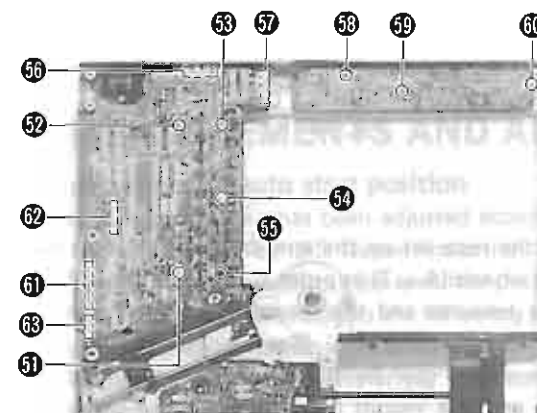

Fig. 15
2. Remove the logic control P.C.B. setscrews ⑪ ~ ⑬. (See Fig. 15)
3. Remove the connector ⑭ (CN204) and ⑮ (CN401) of the logic control P.C.B.; remove the setscrews ⑯ ~ ⑰ of the operation P.C.B. then the operation P.C.B. can be removed. (See Fig. 15)
5. Remove the connectors ① (CN404), ② (CN405) and ③ (CN403) of the logic control P.C.B. (See Fig. 15)